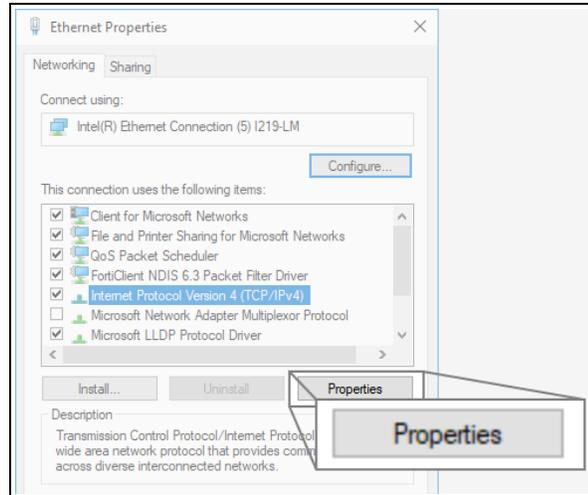

Figure 130: Ethernet Properties dialog box
7. Select the **Internet Protocol Version 4 (TCP/IPv4)** option. Figure 130